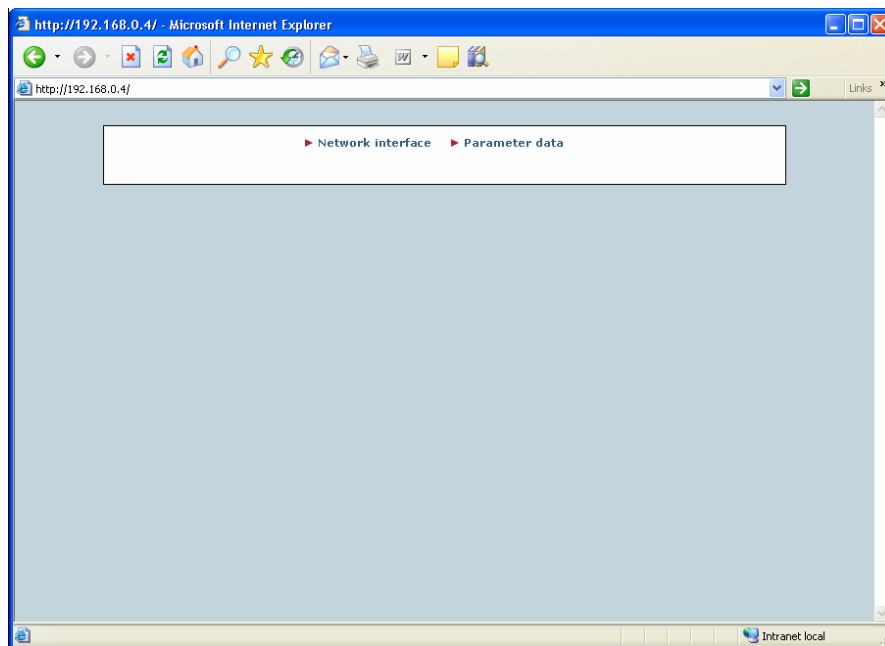

Figure 2.1 - Opening window
- ☑ Open the browser and type the *hostname* or the IP address of the CFW-11. In this example below the drive has the IP 192.168.0.4. The window showed in Figure 2.1 will be displayed.